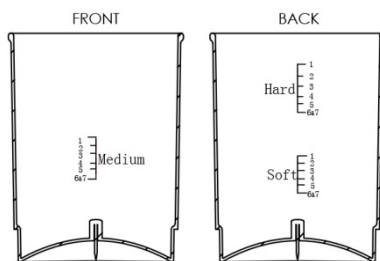

Figure 1
3. Fill the measuring cup (Figure 1) to the appropriate line. The numbers on the measuring cup represent the number of eggs to be cooked. For best results, use distilled water- tap water contains minerals that can cause eggs to discolor.